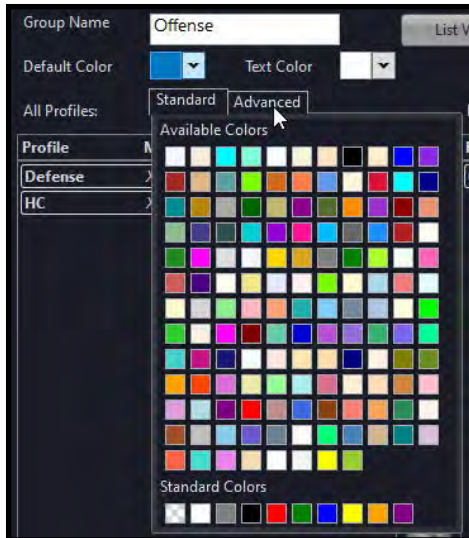

Figure 97: Editing Group Colors
6. Open the drop-down color pickers in the Color and Text Color fields, and choose a color to represent the group (see Figure 97). This color choice appears on the RP Icons (X-Ware's Home screen) for profiles with the group assignment.